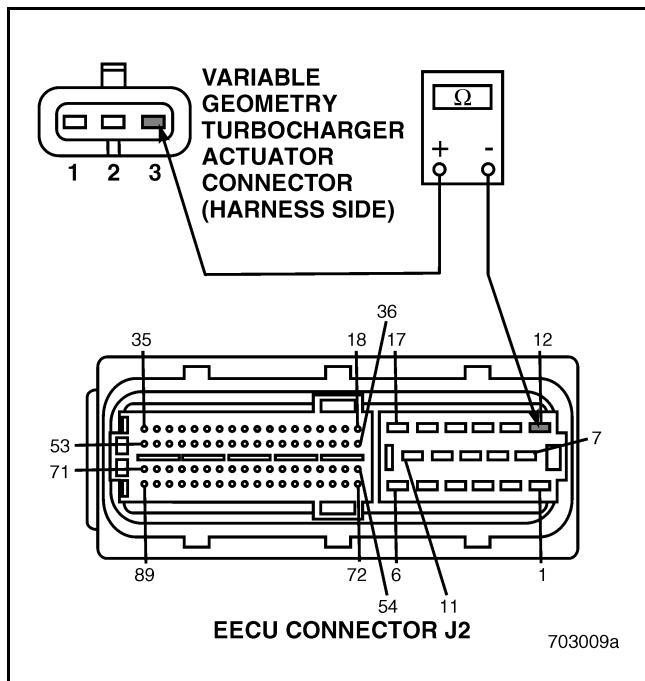

Figure 737
4. Check for continuity between EECU harness connector J2, pin 12 and the VTG Actuator harness connector pin 3 (see Figure 737).